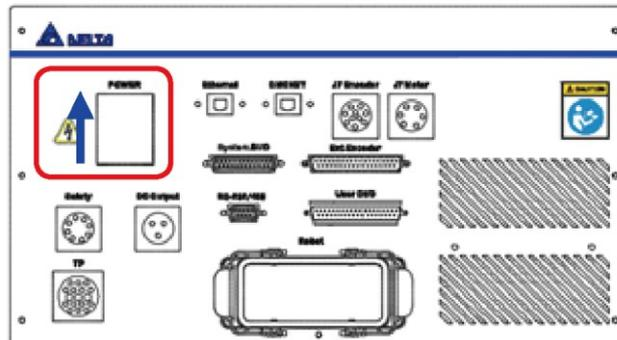

Figure 7.6 Quickstart wiring power switch ON
(7) Turn on the power to the DCV controller and switch the power switch on the DCV controller from OFF to ON, as shown in Figure 7.6.